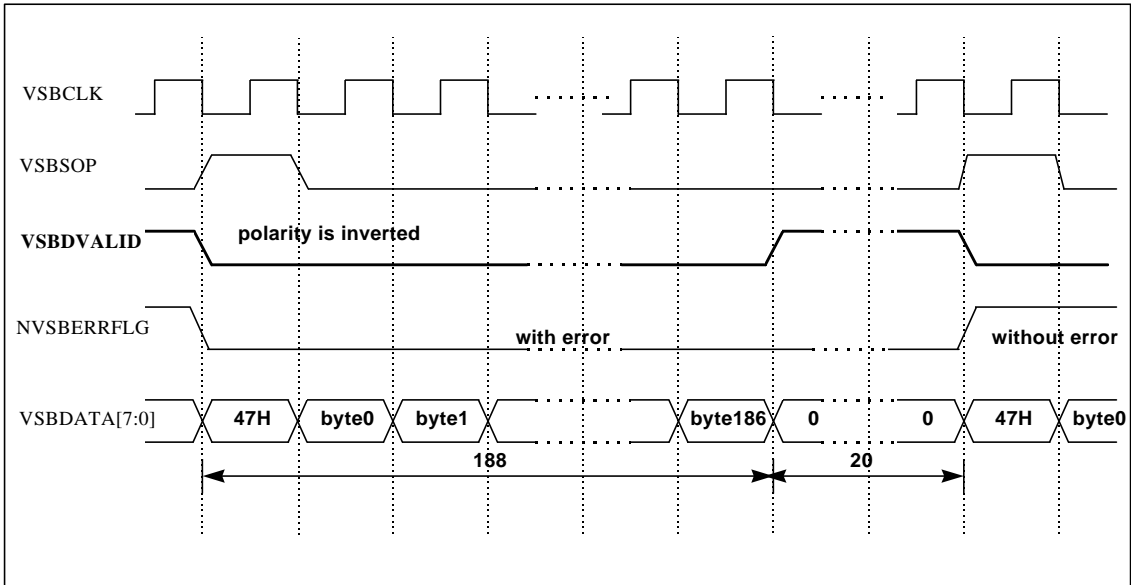

Figure 6.6.11 I/F to Transport Demultiplexer when Register64[1] is set to '0'
1) signal VSBDVALID='0' and VSBDVALID='1' indicate valid data and invalid data interval respectively. See Fig. 6.6.11.